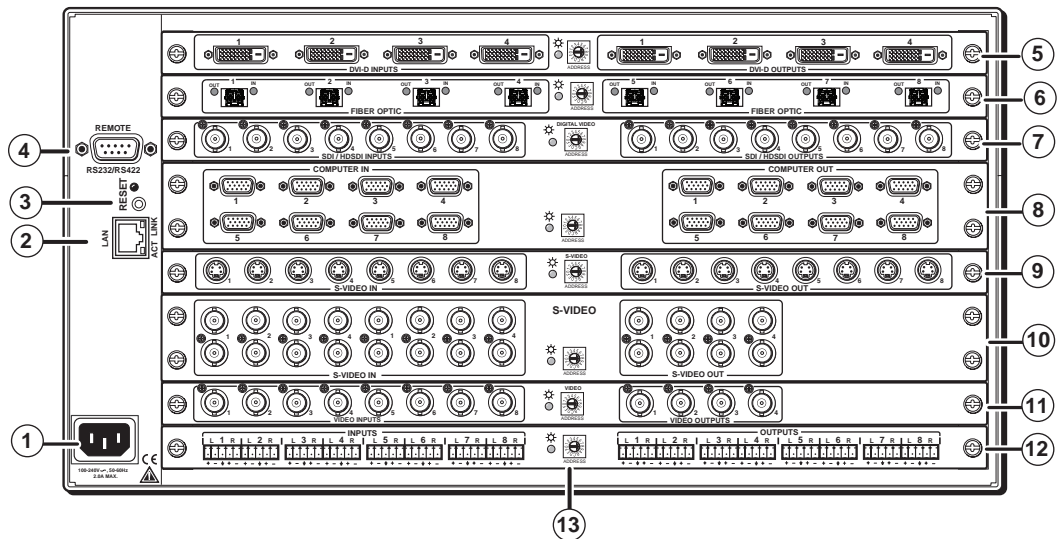

Figure 2. SMX Rear Panel Features
The I/O boards on any unit may vary with each installation, depending on desired configuration and use. All board types have the input and the output connectors clearly marked, and each board has a 16-position rotary switcher (see ⑬, figure 2) for setting the I/O plane address. An LED on the board indicates when power is present.
Figure 2 shows some, but not all, board variations that can be installed into an SMX frame. Boards have different combinations of input and output connectors, depending on the specific board installed. To install any board into an SMX frame slot (see SMX Frame and I/O Board Installation on page 10).